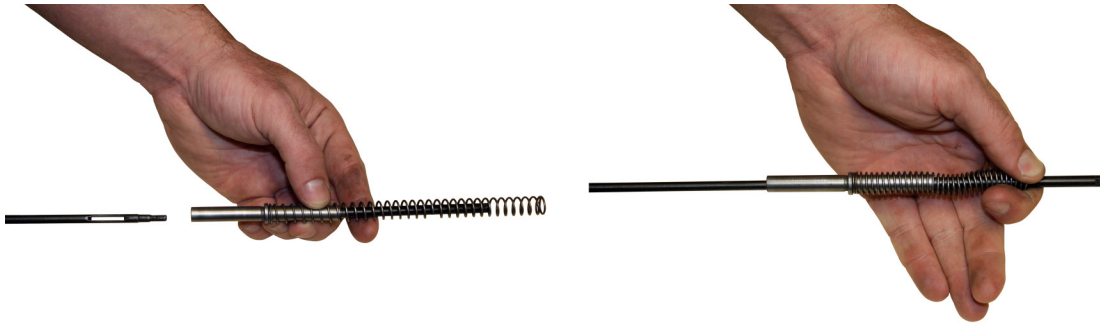

Figure 8. Slide a Cleaning Rod into the Guide Rod Bushing.
- Slide a cleaning rod into the guide rod bushing to provide a better grip on the guide rod bushing. Compress and hold the rear recoil spring against the guide rod bushing. Refer to Figure 8.